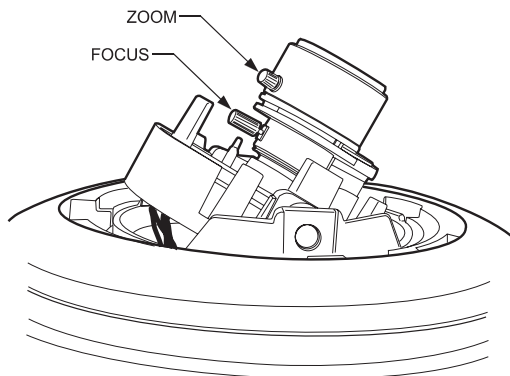

Figure 10. Location of Zoom and Focus Adjustments
1. Select a field of view by turning the zoom adjustment ring clockwise/counterclockwise. Refer to Figure 10.